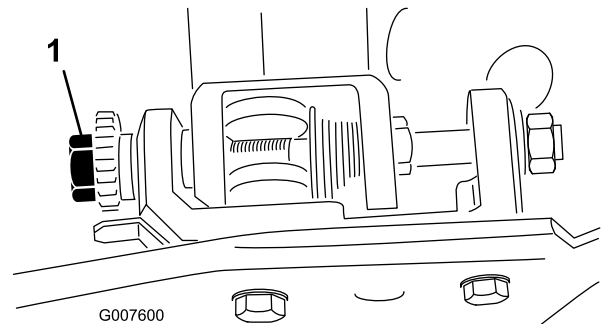

Figure 35
2. Ensure that the reel contact is removed by turning the bedbar adjusting screws counterclockwise (Figure 35).
turn the bedbar adjusting screw clockwise (on the same end of reel, one click at a time, until the paper is pinched lightly, when inserted from the front, parallel to the bedknife, which results in a slight drag when paper is pulled (Figure 35).